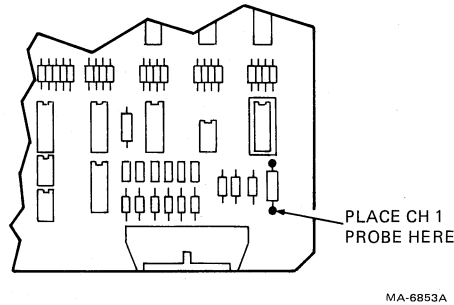

Figure 6-43 +VAM Test Point on Write PCBA
- b. Remove power from the tape transport. Place Ch1 probe on the front lead of write PCBA R324 (signal +VAM). Refer to Figure 6-43 for locations.